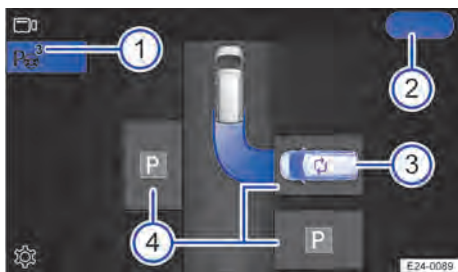

Fig. 117 Infotainment system: selecting a parking space (illustration).
The number of found parking spaces is shown on the function button or for Active Park Assist → Fig. 117 ①.
3. Active Park Assist automatically selects a parking space and shows this as the preferred parking space (blue vehicle) in the third-generation Infotainment system → Fig. 117 ②.
1. Tap the desired parking space on the third-generation Infotainment system screen → Fig. 117 ④.
1. If available, tap the symbol on a parking space → Fig. 117 ③.
i If Active Park Assist is not activated, any detected parking spaces → Fig. 117 ① may be shown in the Parking Sensors display.